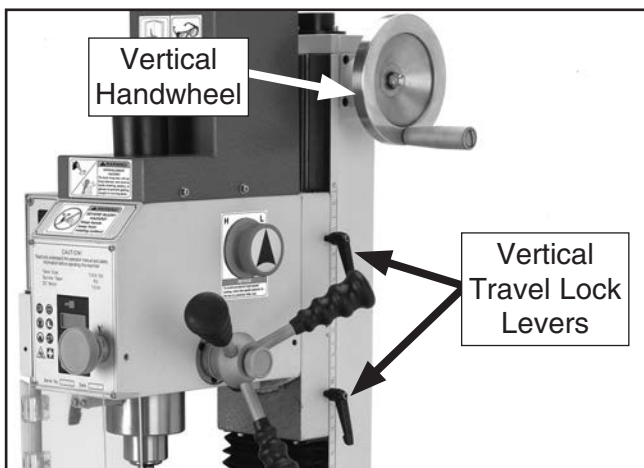

Figure 30. Headstock slide controls.
1. Unlock the vertical travel lock levers shown in **Figure 30**.
2. Turn the vertical handwheel shown in **Figure 30** to raise or lower the headstock, then lock the vertical travel lock levers.